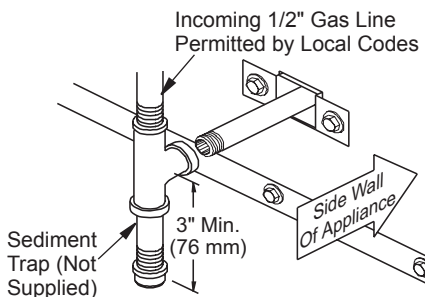

Figure 15 - Sediment Trap
1. Install a sediment trap between incoming gas line and gas control valve (see Figure 15, page 10). Sediment trap should extend down center of pipe. Refer to your local codes.